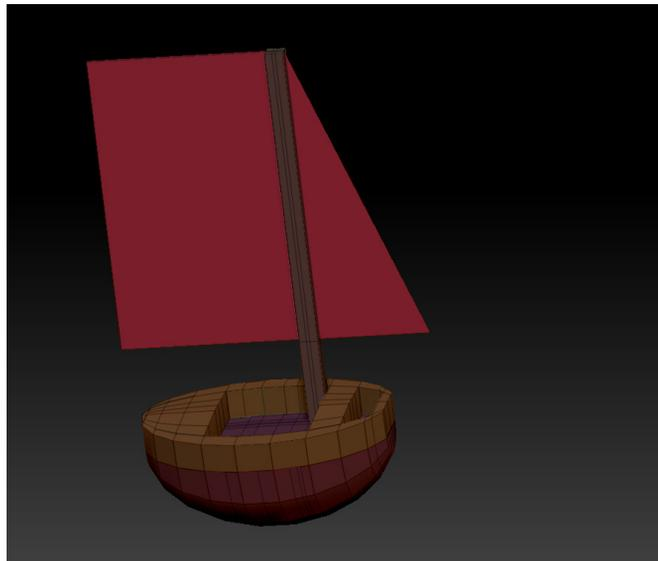

Figure 3-129 Deleted points
5. Hover the cursor on the point and click; the point is deleted and the shape of the sail cloth is changed. Similarly, delete the opposite point. Figure 3-129 shows the deleted points of the sail cloth.